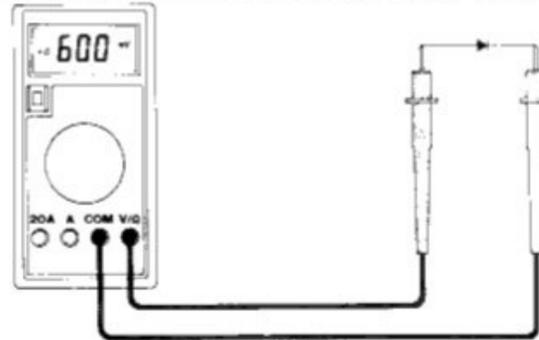

Fig. 5-7 Diode Measurement
2. Turn the Rotary switch to the \rightarrow  range and connect the test leads, Red test lead to "+" polarity and Black test lead to "-" polarity, across the diode under measurement. See Figure 5-7.